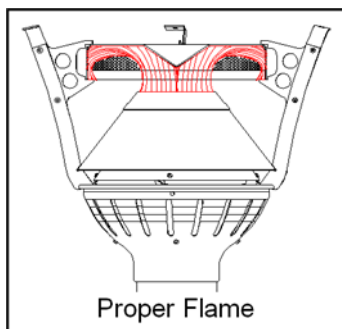

Figure 16: Proper Flame Pattern
4. Visually check the Burner flame pattern during use. A "Proper Flame" should resemble image on Figure 16.